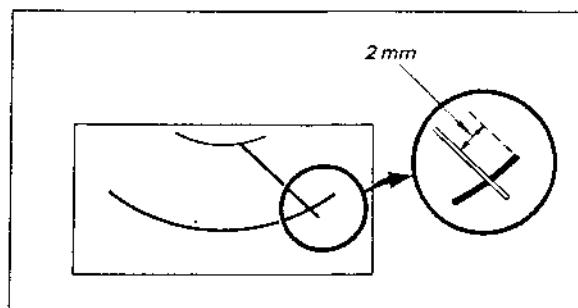

Fig. 3-9. Meter calibration
2. Tune to the signal generator frequency, then adjust RT201 (See Fig. 3-8) for the specified reading on the meter as shown in Fig. 3-9.
- Tune to the signal generator frequency, then adjust RT301 (See Fig. 3-8) for the specified reading on the meter as shown in Fig. 3-9.